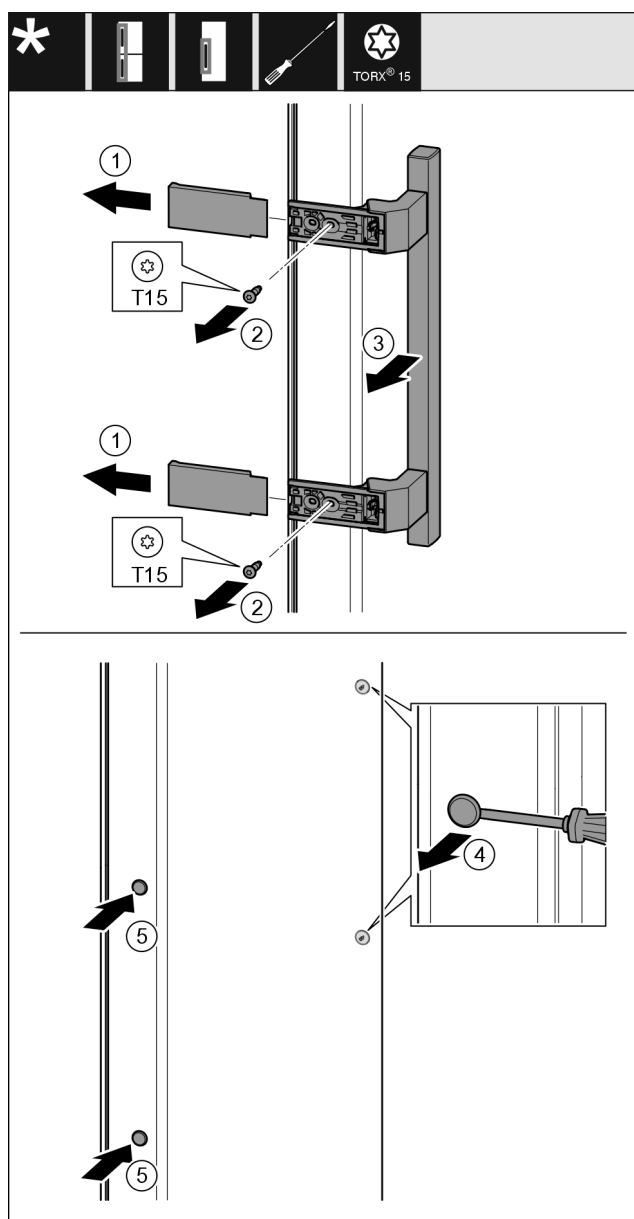

Fig. 33
- Remove the cover Fig. 33 (1).
- Unscrew screws Fig. 33 (2) with screwdriver.
- Remove the handle Fig. 33 (3).
- Use a slotted screwdriver to lift the side plug Fig. 33 (4) carefully and pull it out.
- Re-insert the plug Fig. 33 (5) on the other side.